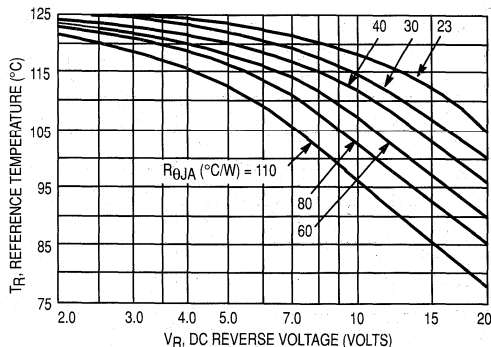

Figure 1. Maximum Reference Temperature 1N5817
Figures 1, 2, and 3 permit easier use of equation (1) by taking reverse power dissipation and thermal runaway into consideration. The figures solve for a reference temperature as determined by equation (2).
Inspection of equations (2) and (3) reveals that T_R is the ambient temperature at which thermal runaway occurs or where $T_J = 125^\circ\text{C}$, when forward power is zero. The transition from one boundary condition to the other is evident on the curves of Figures 1, 2, and 3 as a difference in the rate of change of the slope in the vicinity of 115°C. The data of Figures 1, 2, and 3 is based upon dc conditions. For use in common rectifier circuits, Table 1 indicates suggested factors for an equivalent dc voltage to use for conservative design, that is: